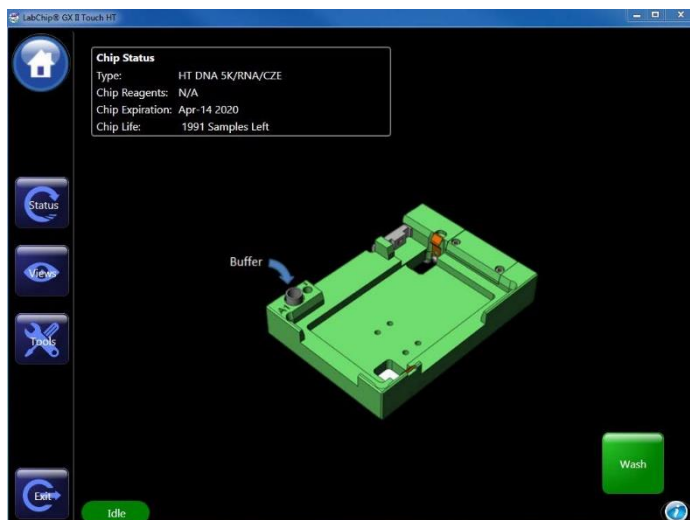

Figure 15. Wash Screen
- 9 Touch the **Wash** button on the Home screen. The Wash screen (Figure 15) opens if the plate holder is extended. Otherwise, the wash starts automatically.